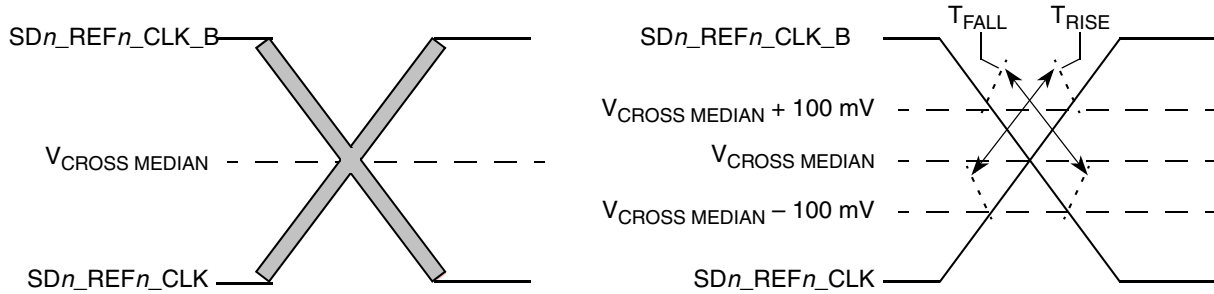

Figure 38. Single-ended measurement points for rise and fall time matching
- Matching applies to rising edge for SD_n_REF_n_CLK and falling edge rate for SD_n_REF_n_CLK_B. It is measured using a 200 mV window centered on the median cross point where SD_n_REF_n_CLK rising meets SD_n_REF_n_CLK_B falling. The median cross point is used to calculate the voltage thresholds that the oscilloscope uses for the edge rate calculations. The rise edge rate of SD_n_REF_n_CLK must be compared to the fall edge rate of SD_n_REF_n_CLK_B, the maximum allowed difference should not exceed 20% of the slowest edge rate. See Figure 38.